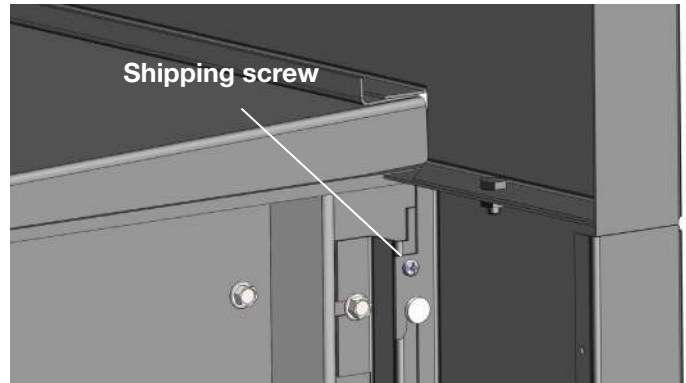

Figure 12: TN20.INSa Shipping screw
1. Remove the shipping screws located at the top of each surround side panel (*fig. 10*). remove the two screws holding the Fan Controls on the side panel and remove the controls (*fig.12*). Lift to remove both panels from the unit.